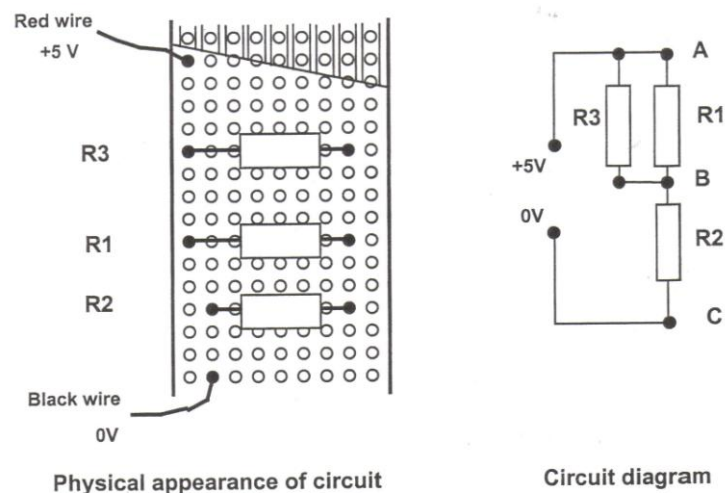

Figure 2.5: Schematic of the series-parallel circuit.
13. After switching off the power supply, mount this resistor in parallel with *R*1 as shown in Figure 2.5 and solder it in position.